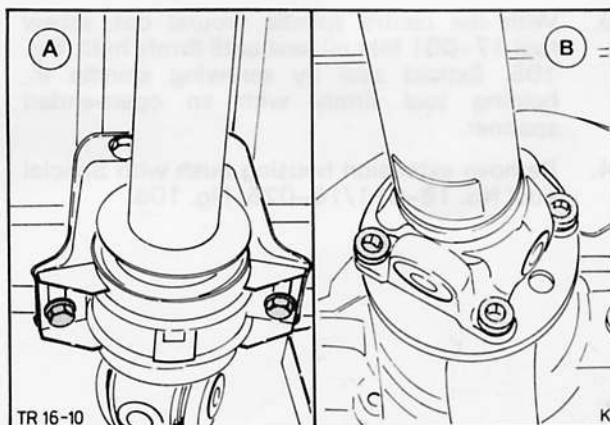

Fig. 109. Driveshaft mountings - rear axle flange and centre bearing
8. Attach driveshaft to rear axle flange with bolts and new spring washers and torque as specified, Fig. 109.
9. Torque centre bearing bolts as specified, Fig. 109.